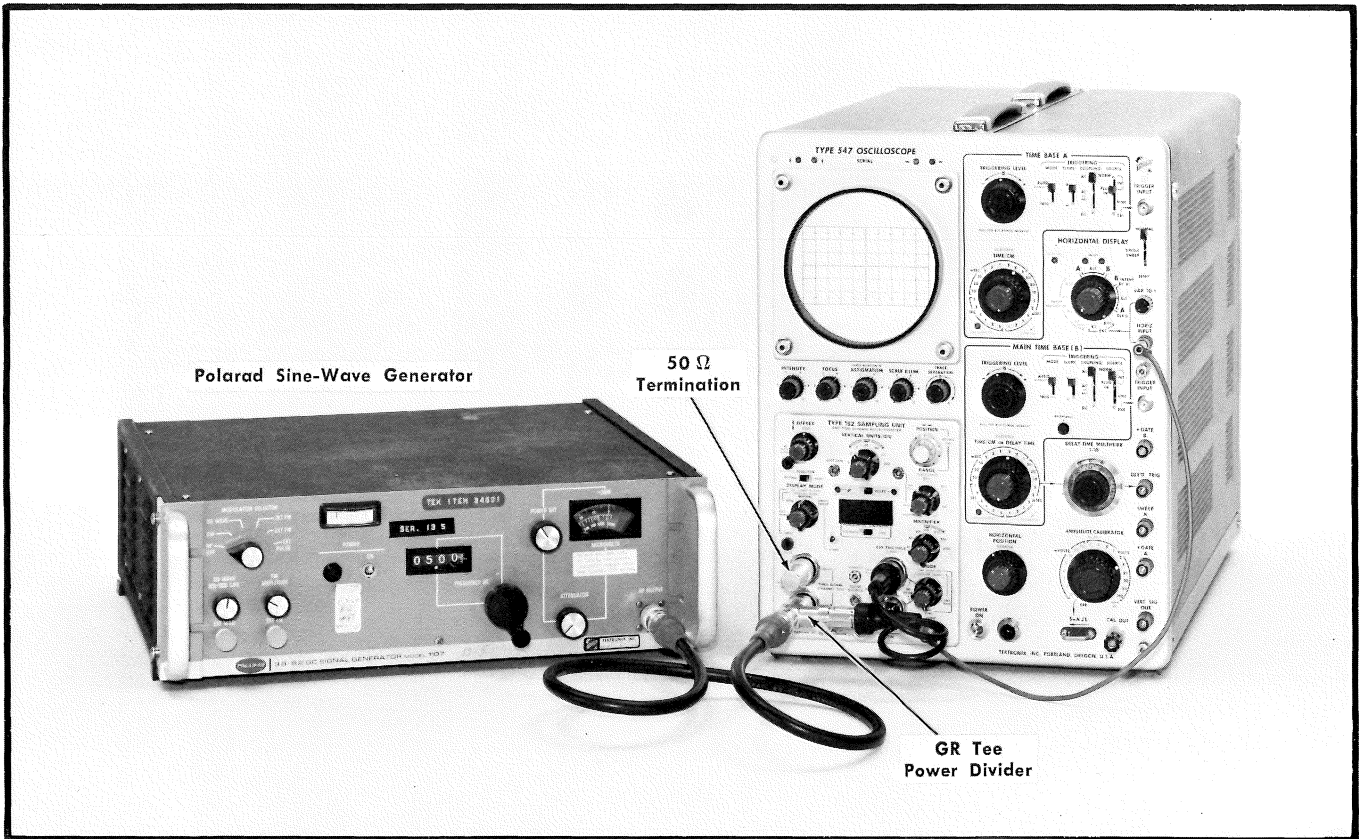

Fig. 7-37. Test equipment setup for step 45.
- a. Test equipment setup is shown in Fig. 7-37. Install the GR 50 Ω Termination in the upper THRU SIGNAL CHANNEL 50 Ω connector.